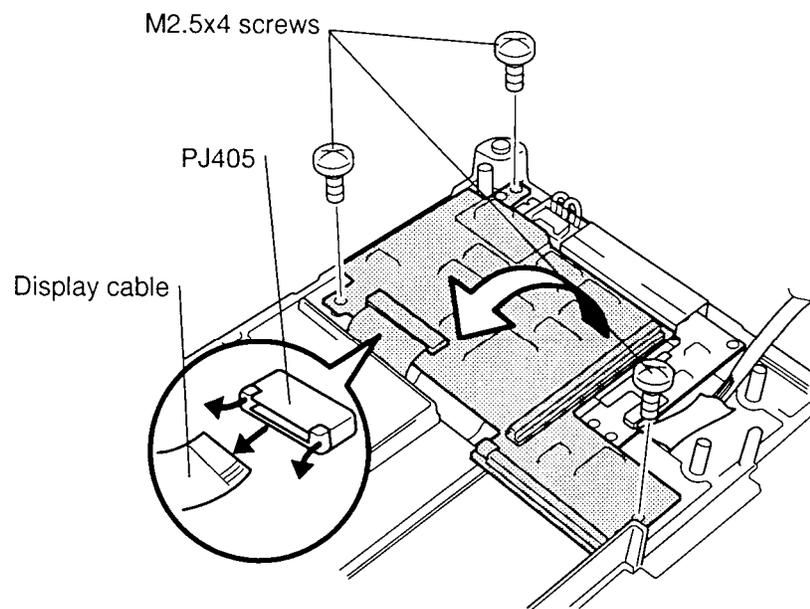

Figure 4-14 Removing the T200CS Lower System Board
To remove the T200CS's lower system board, follow the steps below and refer to Figures 4-14 and 4-15.
3. Remove the black insulator, then disconnect the **display cable** from **PJ405** (Figure 4-14).
4. Peel back the white tape, then remove the **three M2.5x4 screws** securing the lower system board (Figure 4-14).
To install the T200CS's lower system board, follow the steps below and refer to Figures 4-14 and 4-15.
2. Connect the **display cable** to **PJ405** (Figure 4-14), and replace the black insulator over the display cable.
3. Place the lower system board on the base frame (Figure 4-14).
4. Secure the **three M2.5x4 screws** on the lower system board (Figure 4-14).